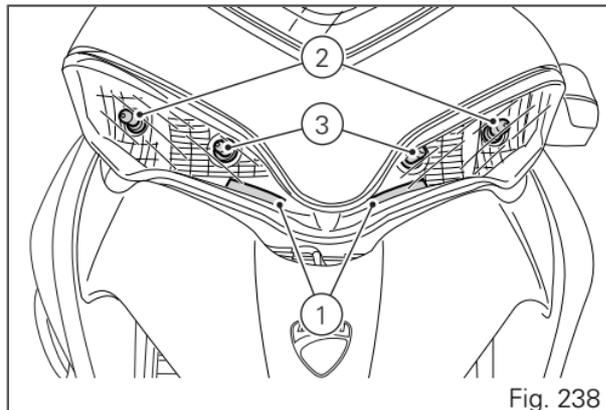

Fig. 238
(Fig. 238) shows the location of the LED parking lights (1), the LED low beams (2) and the high beam bulbs (3).